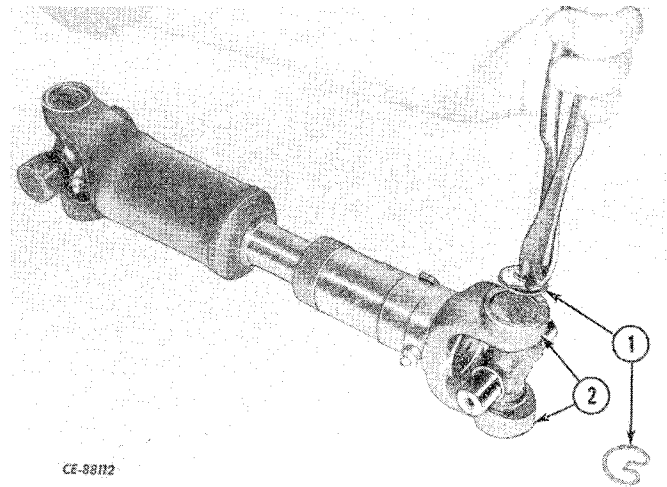

Figure 5-3
Remove the snap rings (1, Fig. 5-3) from the grooves in the yoke ends (2).
Install the bearing retaining snap rings (1, Fig. 5-3) in the grooves in the yoke (2).